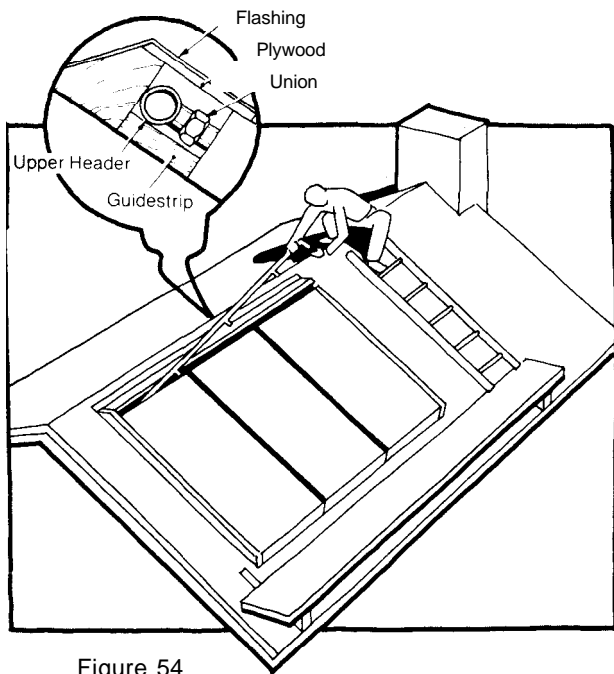

Figure 54
8. Assemble the top header out of copper tubing. Solder all the joints carefully and test for leaks. All of this can be done on the ground. Connect the header to the panels on the roof with a union. See Figure 54.